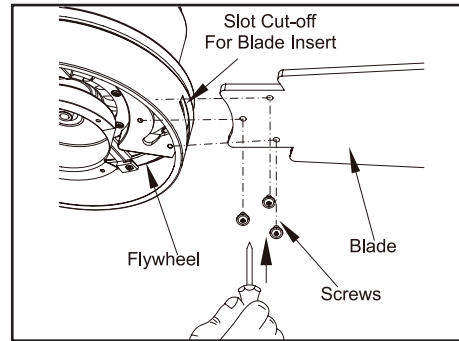

Figure 12
1. Attach the blade to the the fan motor assembly, align the screw holes in the blade with the screw holes above and under the motor assembly and secure screws. (Figure 12)
2. Most fan wobble problems are caused when blade levels are unequal. Check this level by selecting a point on the ceiling above the tip of one of the blades. Measure from a point on the center of each blade to the point on the ceiling. Measure this distance as shown in Figure 12. Rotate the fan until the next blade is positioned for measurement. Repeat for each blade. Measurements deviation should be within 1/8". Run the fan for 10 minutes.